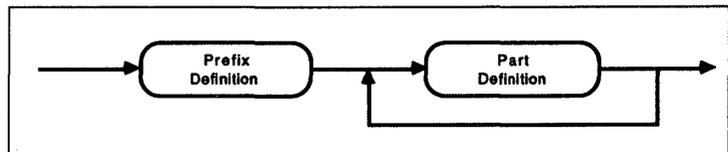

Figure 20-1. Syntax diagram for a library source file.
Figure 20-1 is an example of a syntax diagram. It represents the complete syntax for a library source file.
3. Junctions represent a connection point where you have the choice of selecting another path. For example, the syntax diagram for the library source file shown in figure 20-1 has a junction after a Part Definition. You can choose to complete the diagram or to make another Part Definition.
4. You cannot travel a path going against the arrows. For example, in figure 20-1, you cannot return to the prefix definition after you make a part definition.
Identifiers serve as placeholders for a more detailed level of syntax structure. They do not represent command syntax or tokens. Rather, they provide the ability to give an overview of the syntax. When you create the part, you must work down through all the nested identifiers. For example the syntax diagram for a library source file shown in figure 20-1 has two identifiers (Prefix Definition and Part Definition) and no tokens.